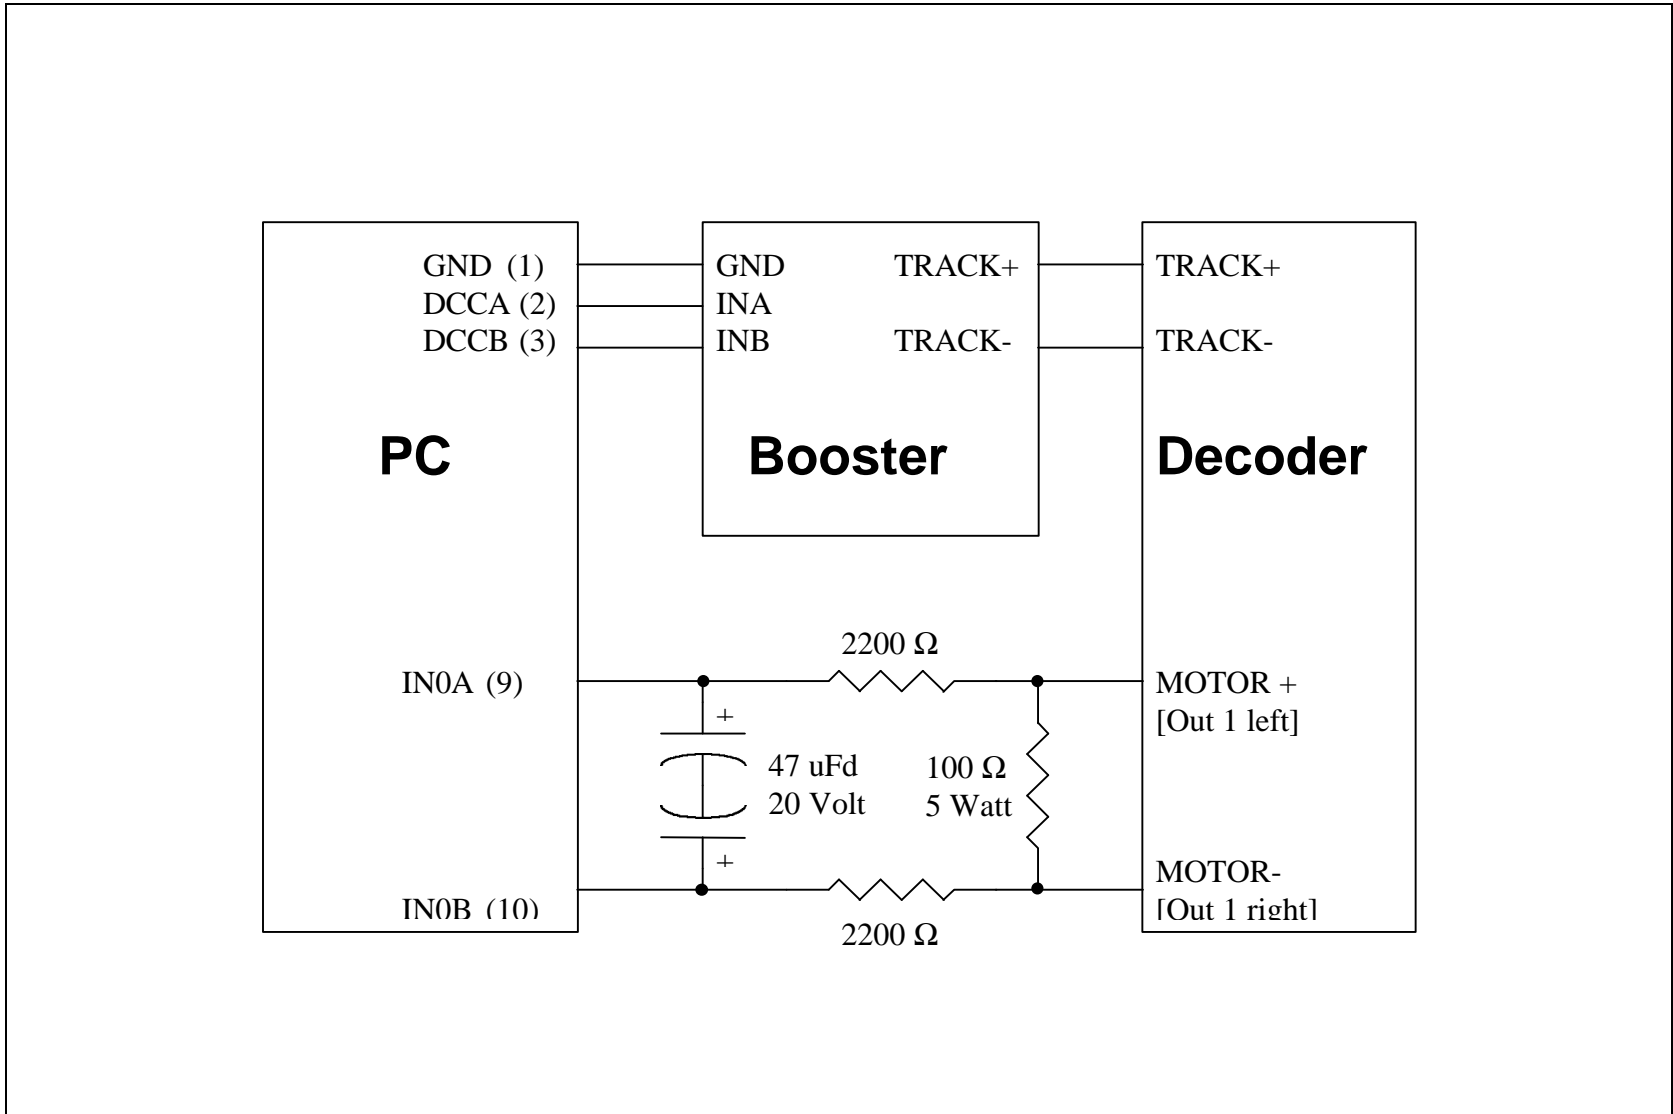
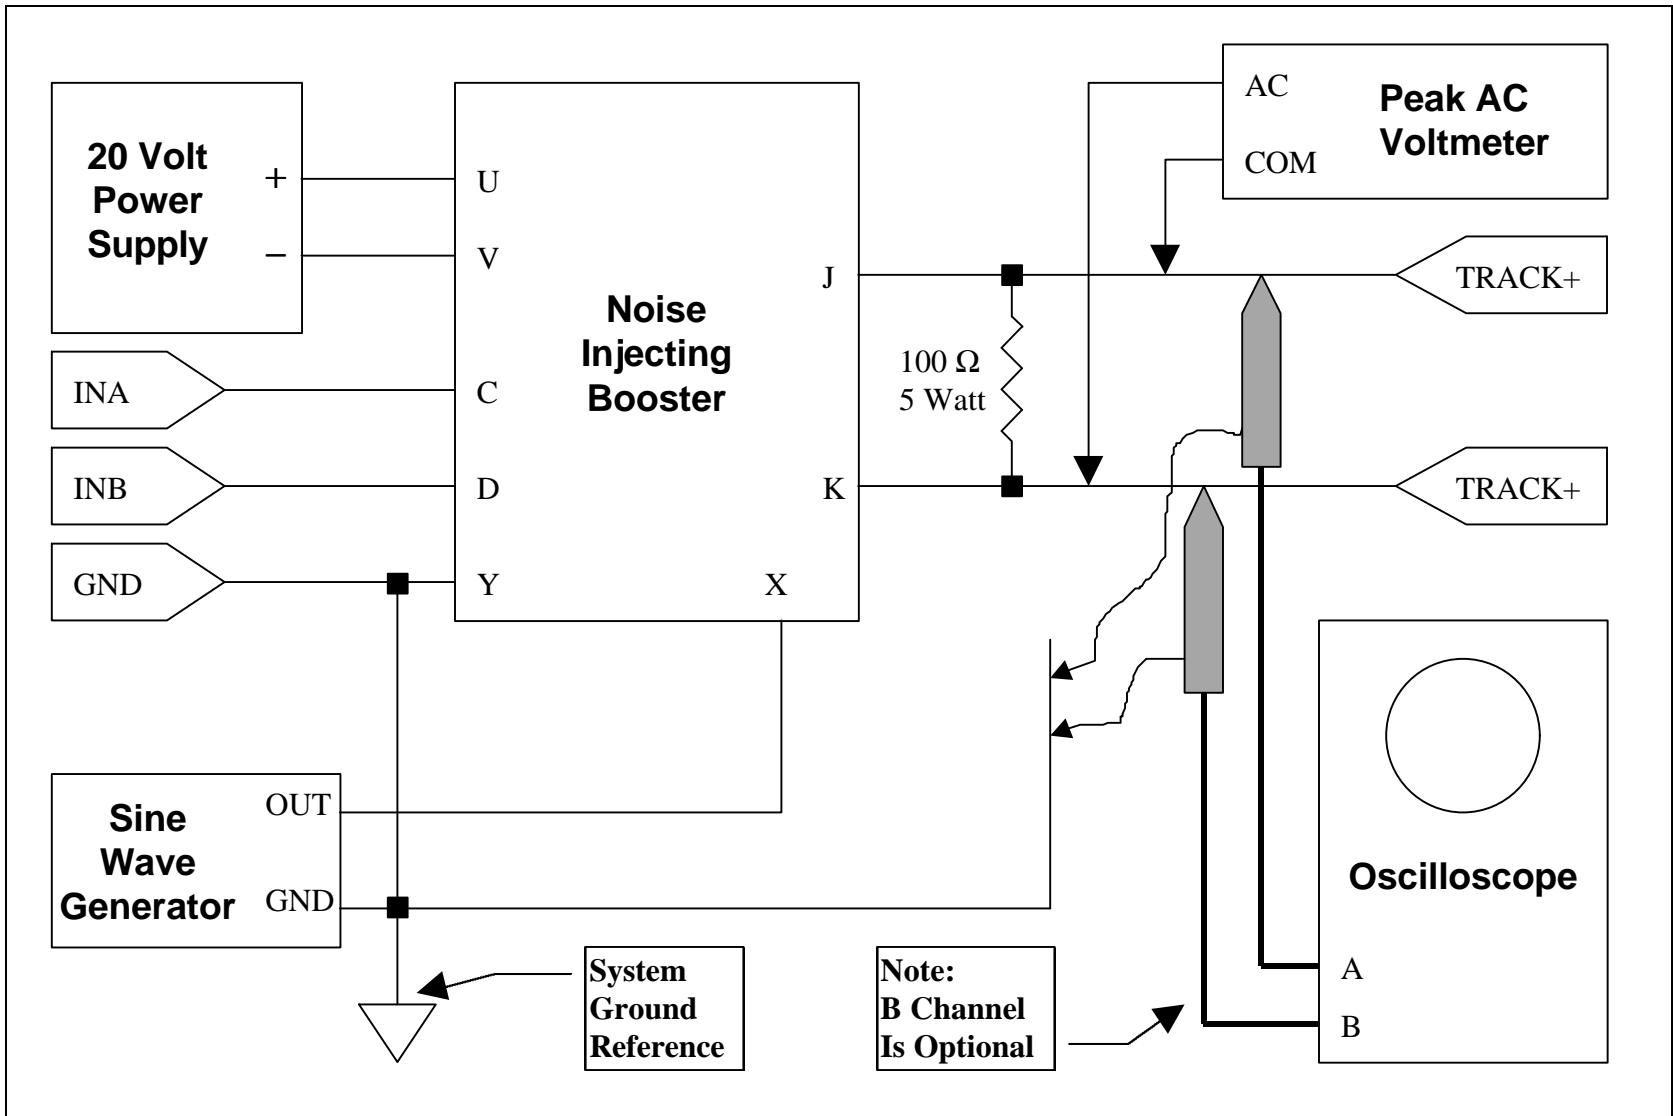

Figure 1: Test Jig Schematic
Figure 2: Noise Injecting Booster Connections
- 5) Decoder test jig as shown in *Figure 1: Test Jig Schematic*.
The test equipment should be connected as shown in *Figure 1: Test Jig Schematic*. The noise injecting booster should be set up as shown in *Figure 2: Noise Injecting Booster Connections*.
- 2) Connect conforming booster as per *Figure 1: Test Jig Schematic*.
<ol style="list-style-type: none"> 1. Decoder should be programmed and connected as specified in the manual test section. 2. Connect conforming booster as per Figure 1: Test Jig Schematic. 3. Start decoder test program in automatic mode by typing- C:\> send for a mobile decoder or C:\> send -d a for an accessory decoder. 4. Enter appropriate decoder information when prompted. 5. Verify self tests have passed.
- 2) Connect the noise injecting booster as per *Figure 1: Test Jig Schematic* and *Figure 2: Noise Injecting Booster Connections*.
<ol style="list-style-type: none"> 1. Equipment should be set up as specified in Equipment Setup For Automated Tests With Noise Injecting Booster. 2. Connect conforming booster as per Figure 1: Test Jig Schematic with decoder input leads in the NORMAL position. 3. Start decoder test program in automatic mode by typing- C:\> send for a mobile decoder or C:\> send -d a for an accessory decoder. 4. Enter appropriate decoder information when prompted. 5. Verify self tests have passed.
<ol style="list-style-type: none"> 1. Equipment should be set up as specified in Equipment Setup For Automated Tests With Noise Injecting Booster. 2. Connect conforming booster as per Figure 1: Test Jig Schematic with decoder input leads in the REVERSED position. 3. Start decoder test program in automatic mode by typing- C:\> send for a mobile decoder or C:\> send -d a for an accessory decoder. 4. Enter appropriate decoder information when prompted. 5. Verify self tests have passed.